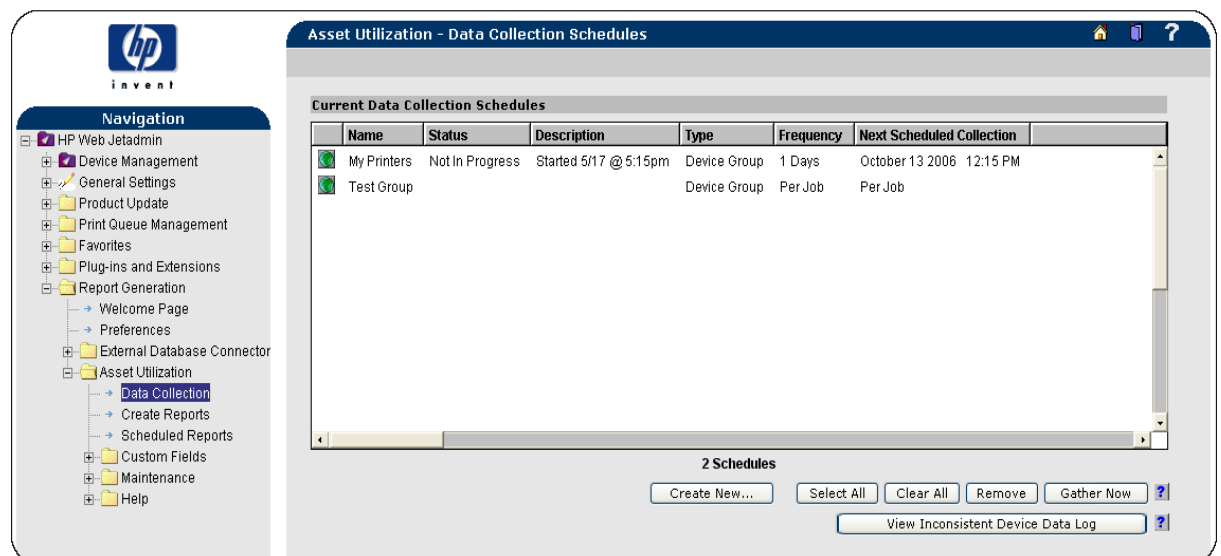

Figure 7. Data Collection
3. Under Asset Utilization, click Data Collection. This will display any currently defined Data Collection Schedules and allows you to create new Data Collection Schedules (see Figure 7).